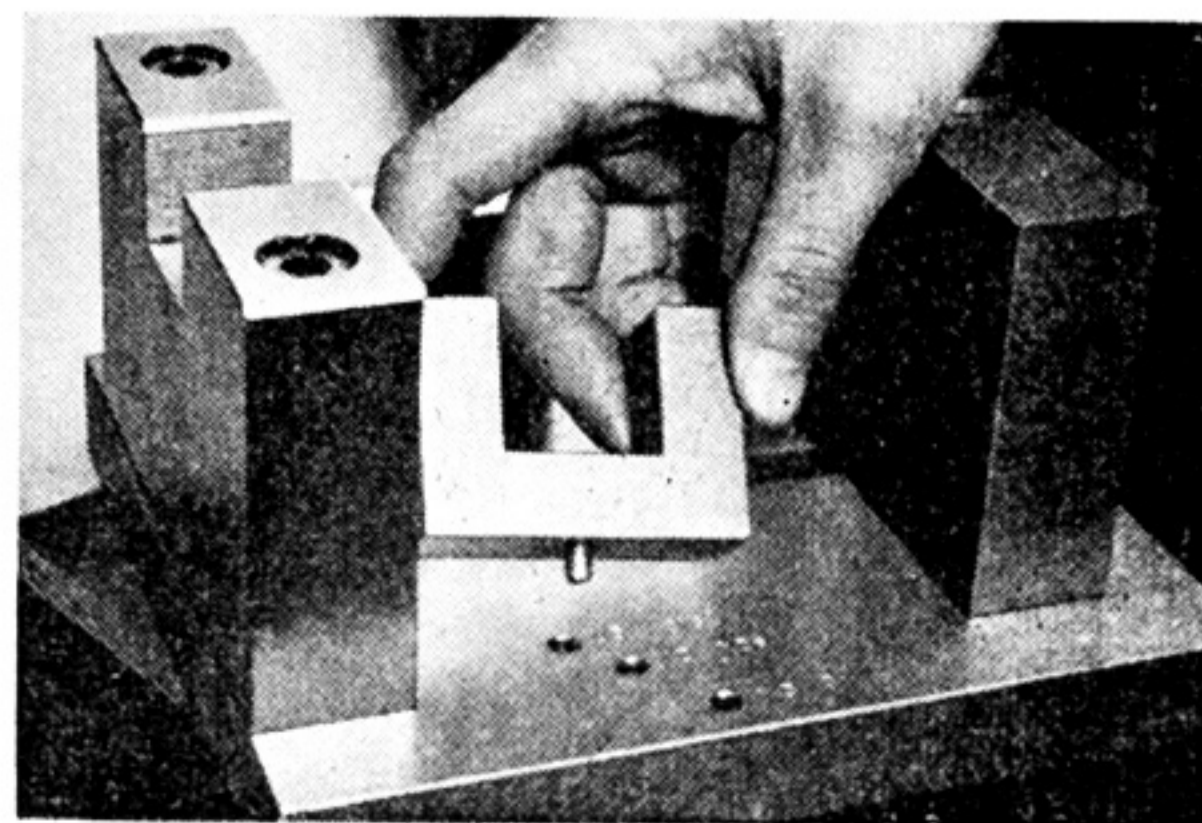

Fig. 3-16-12
- a. Install Tool No.6 (used to align the crankshaft ass'y) on Tool No.1. (Fig. 3-16-12)